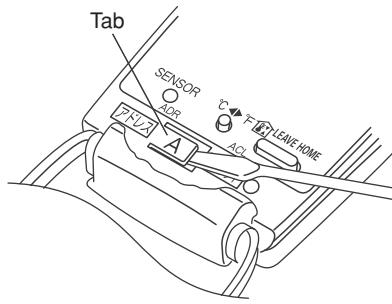
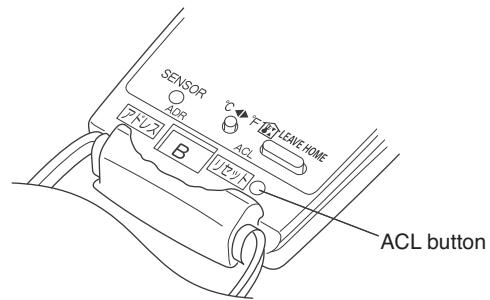
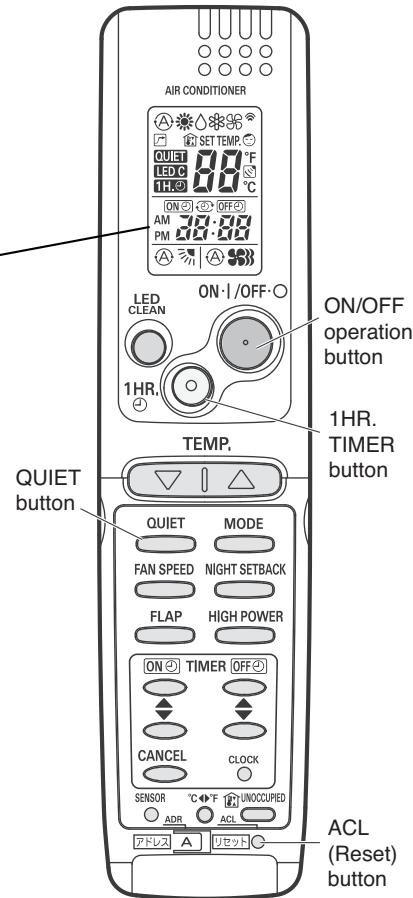

Fig. 62
Fig. 63
Fig. 64
- (1) Switch on the power source.
- (2) Break the address-setting tab marked "A" on the second remote controller to change the address (Fig. 62). When the tab is removed, the address is automatically set to B (Fig. 63).
- (3) Press and hold the remote controller QUIET button and 1HR. TIMER button. Then press and hold the ACL (Reset) button with a pointed object such as the tip of a pen. After 5 seconds, release the ACL button first, then release the QUIET and 1HR. TIMER buttons. "oP-1" (Test Run) appears, blinking in the remote controller clock display area.
- (4) Each time the 1HR. TIMER button is pressed, the display changes as shown below. Press this button 3 times to change the display to "oP-7" (Address setting). (Fig. 64)
- (5) "oP-7" has now been selected for address setting.
- (6) Press the ON/OFF operation button on the remote controller. (Fig. 64) Check that the "beep"-signal-received sound is heard from the second indoor unit (approximately 5 times). The sound you hear is the signal that the remote controller address has been changed.
- (7) Finally press the remote controller ACL (Reset) button to cancel the blinking "oP-7" display. (Fig. 64)